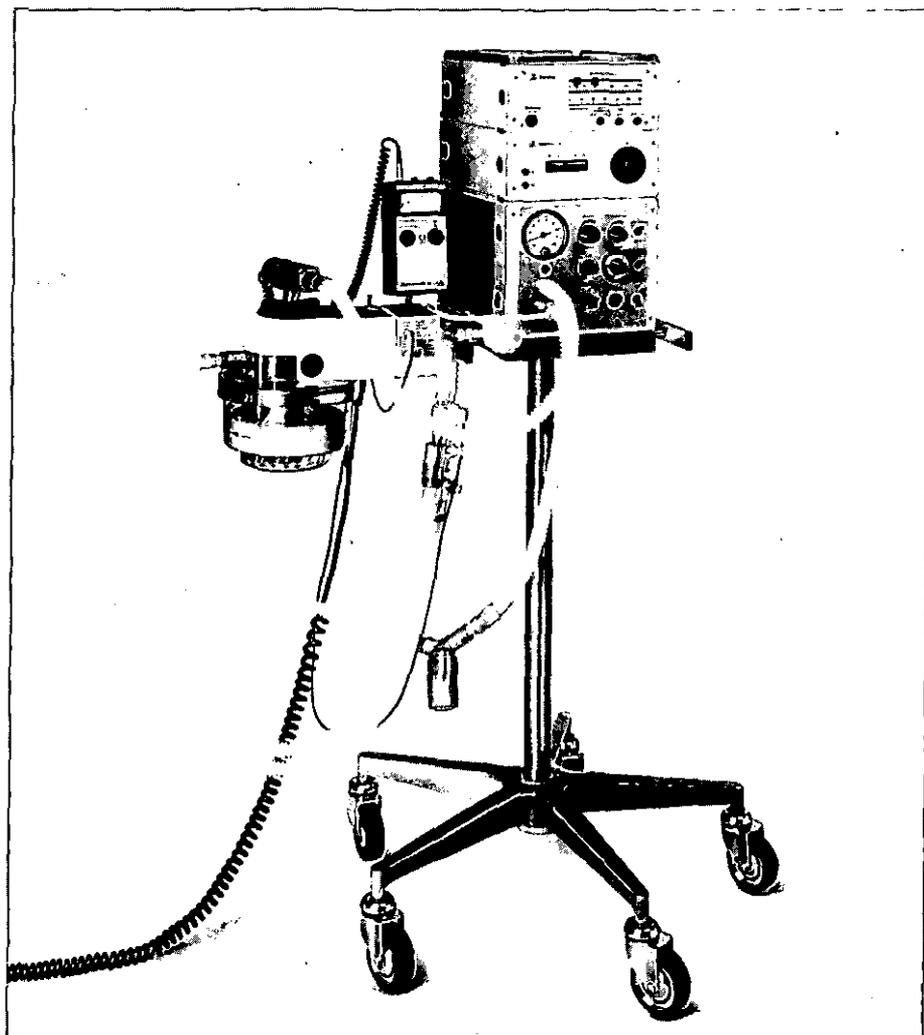

Fig. 11 Babylog 1 on carriage with O₂ blender Polymed, Barolog A, Oxycom 100 D and humidifier Aquapor with AWT 01 40403
When using the Polymed (Fig. 11)
- For safety reasons, maintain the sequence Babylog 1, Polymed and finally (from bottom to top) an electrically operated unit (e.g., Barolog A) (cf. Fig. 11).
- that the breathing gas temperature is measured in the inspiratory hose (using the AWT 01 measuring instrument at the Aquapor, cf. Fig. 11).